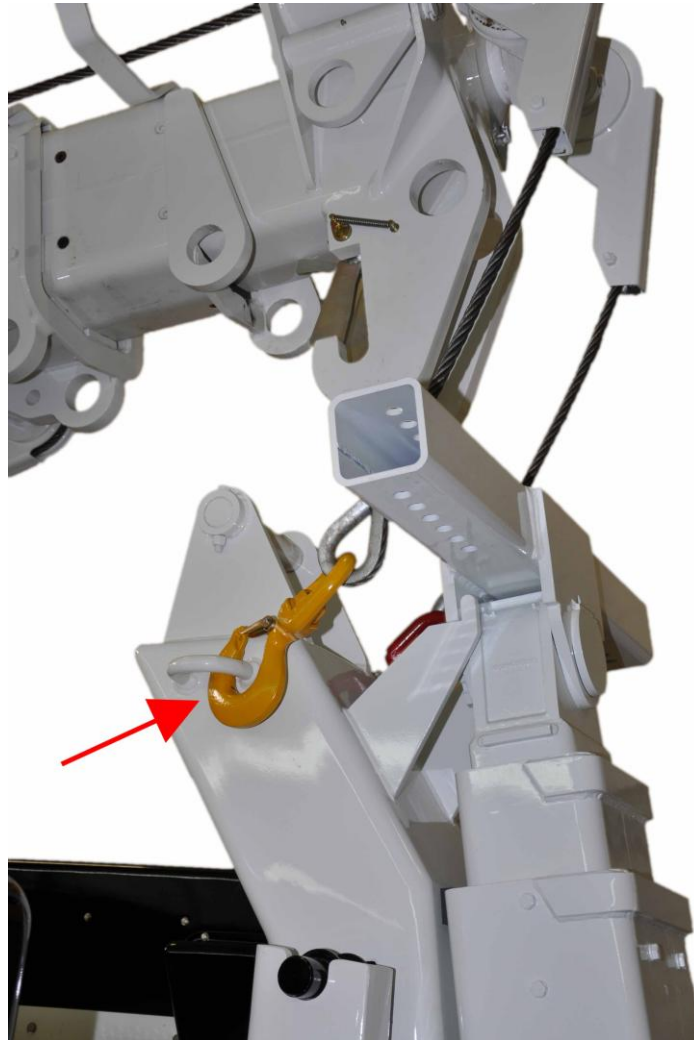

Figure 21 – Attaching the Hooks to the Eyes
8. Gently unwind the main winch cables and attach the hooks to the eyes near the top of the axle-lift stinger. This is shown in Figure 21.